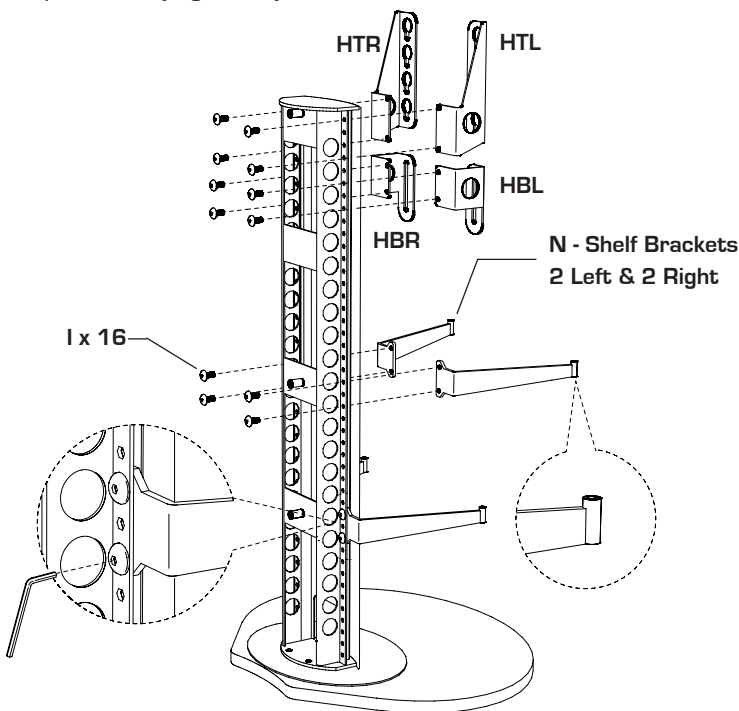

Figure 3
Attach **Shelf (N)** & **Screen Brackets (HTR, HTL, HBR, HBL)** as shown with 3/4" **Pan Head Screws (I)** (Figure 3) using **Large Hex Wrench**. Slots on the face of the screen brackets should face forward. Screen brackets may need to be adjusted up or down to align with horizontal bars.